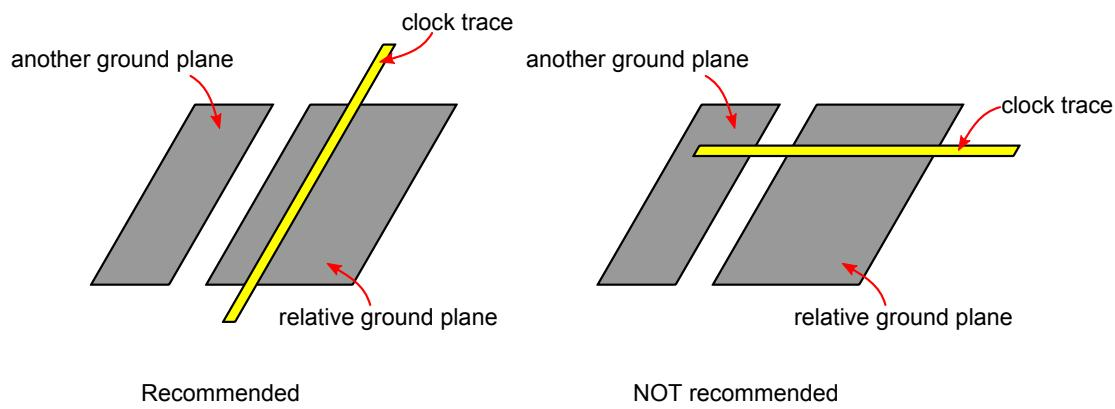

Figure 2-7: Clock trace layout in relation to the ground plane
- Clock traces should be parallel to their reference ground planes. That is, a clock trace should be right beneath or on top of its reference ground plane (see Figure 2-7).